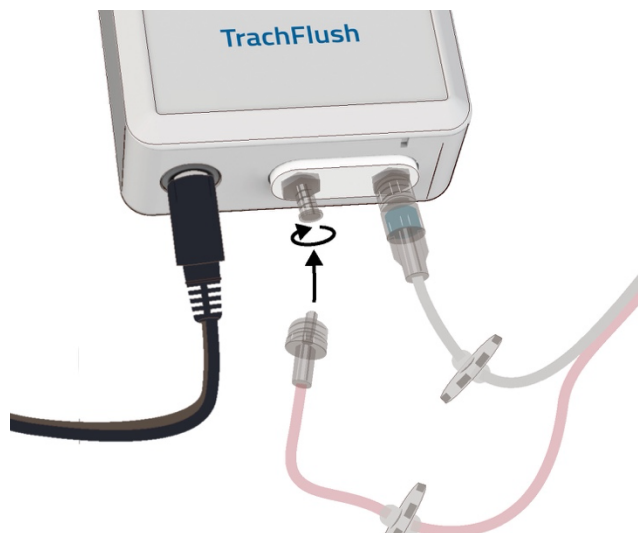

Figure 10: Device connectivity, connecting Airway Tube
**Step 2:** Connect the Airway Tube (pink tube) connector to the airway inlet socket of the TrachFlush device by twisting it on as shown in Figure 10.